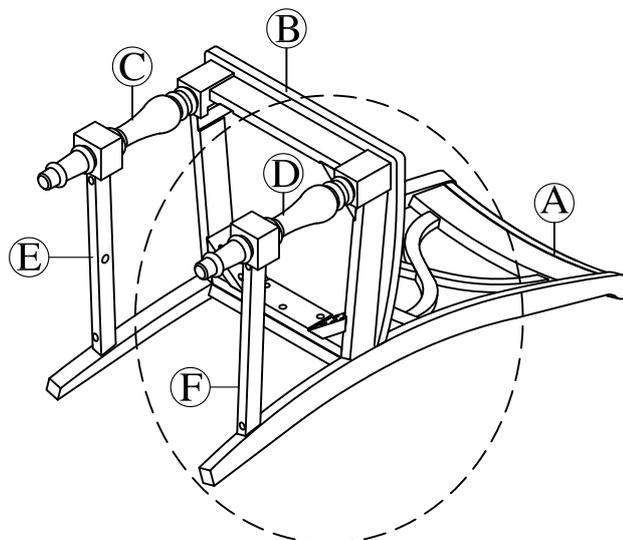

Fig.4
Repeat step 3 to attach the remaining Side Stretcher (F) and Front Leg (D) to Wooden Seat (B) as shown on Fig.4 .